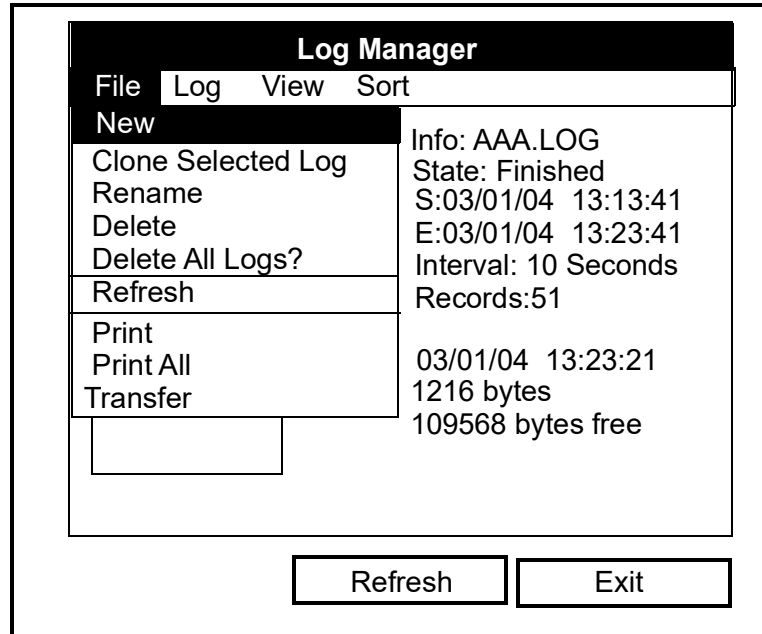

Figure 115: File Menu in the Log Manager
The File Menu allows you, not only to create new logs, but also to copy, rename or delete logs, as well as to print them or transfer them to a PC. To open the File menu from the Log Manager, press the **[MENU]** key and then **[ENTER]**. The screen appears similar to Figure 115 below.
1. First, select the log you wish to copy in the Log Manager (shown in Figure 115).
1. First, select the log you wish to rename in the Log Manager (shown in Figure 115).
1. First, select the log you wish to delete in the Log Manager (shown in Figure 115).